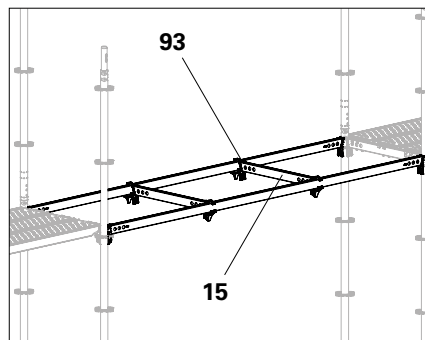

Fig. A8.07a
1. Install additional ledgers (15) with Ledger-to-Ledger Couplers UHA (93) in the system dimension. Do not secure the wedges yet. (Fig. A8.07a)